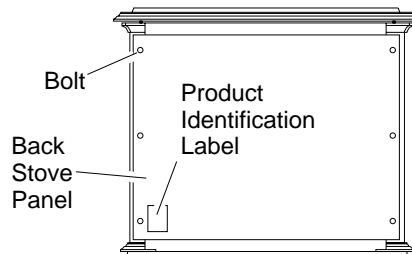

Figure 6 - Removing Back Panel
4. Remove back panel from stove and discard (see Figure 6). Use an adjustable wrench or a 10 mm socket. Remove six (6) bolts and washers. Keep bolts and washers to attach brackets when installing fireplace insert into stove body. Dispose of back panel.